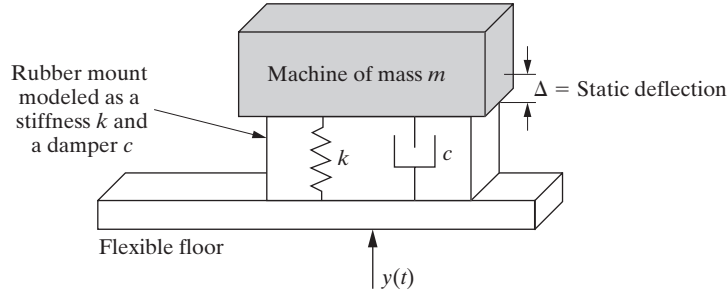

Figure P2.47
- 2.47.** A machine weighing 1800 N rests on a support as illustrated in Figure P2.47. The support deflects about 4 cm as a result of the weight of the machine. The floor under the support is somewhat flexible and moves, because of the motion of a nearby machine, harmonically near resonance ($r = 1$) with an amplitude of 0.2 cm. Model the floor as base motion, and assume a damping ratio of $\zeta = 0.01$, and calculate the transmitted force and the amplitude of the transmitted displacement.